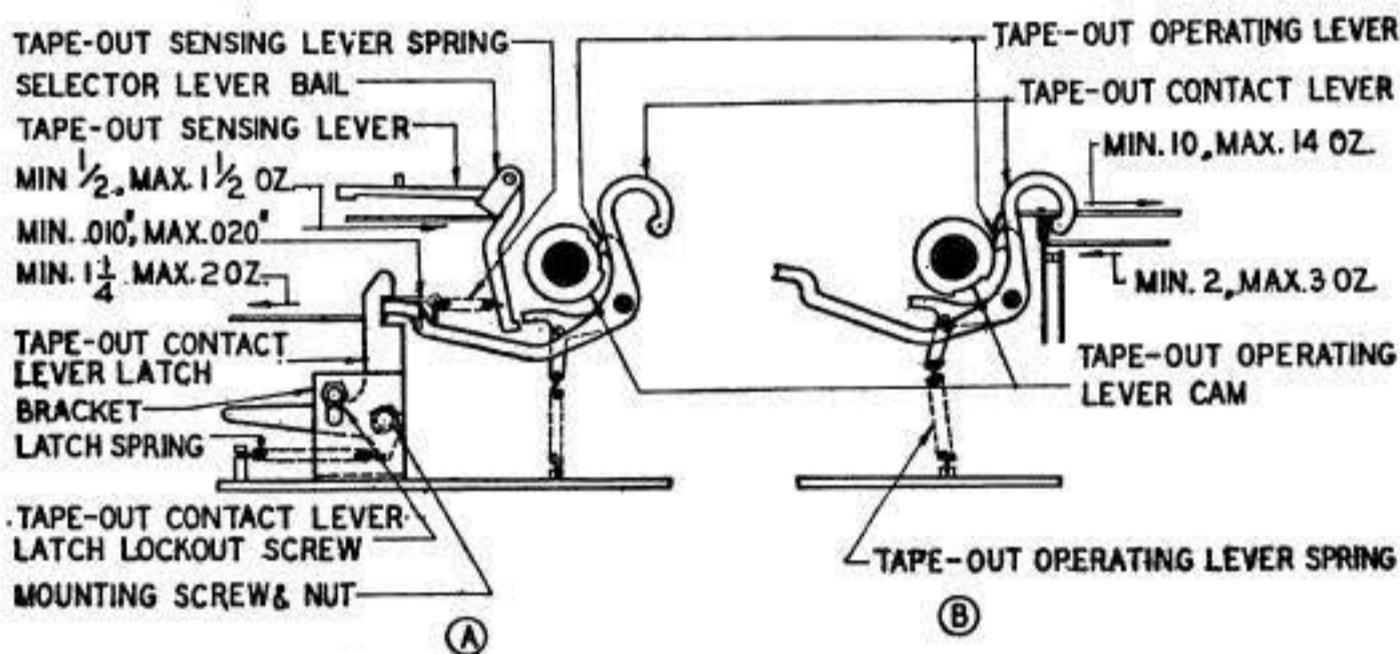

Fig. 5
3.14 Tape-out Contact-lever Latch: With the tape-out operating lever resting firmly on and in the approximate center of the low part of its cam and with the tape-out contact lever against its stop, there should be Min .010", Max .020" clearance, as indicated in Fig. 5(A), between the latching surface of the tape-out contact-lever latch and the tape-out contact lever. **Fig. 5(A)**
3.15 Tape-out Contact-lever-latch Spring: With a TP82725 latch spring (49 turns) installed, it should require Min 1-1/4 oz, Max 2 oz, as indicated in Fig. 5(A) to just start the contact-lever latch moving when the tape-out operating lever is resting on the low part of its cam.
(a) To gauge, hook the scale through the bottom of the notch in the tape-out contact-lever latch and pull in the direction of travel. **Fig. 5(A)**